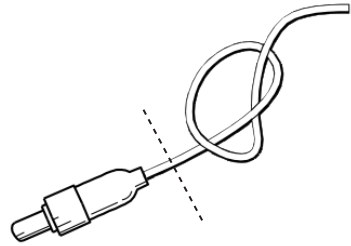

Figure 5
4. Place two overhand tight knots on the part of the balloon inflation tube exiting from the meatus to make sure that the balloon filling cannot leak. Position the knots close to the balloon inflation valve e.g. far away from the urethral meatus to prevent discomfort during nightly erections. The overhand knot is illustrated in Figure 5. Cut off the part of the tube with the balloon inflation valve below the knots.